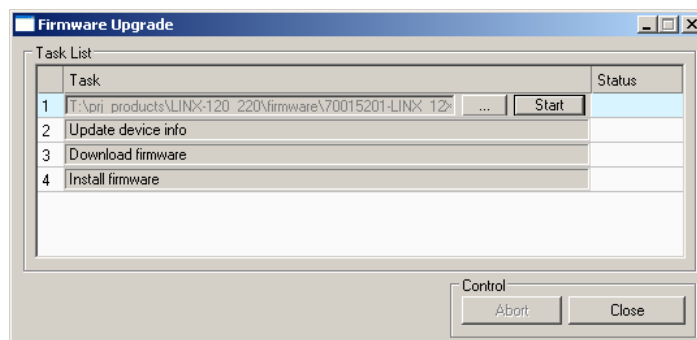

Figure 52: Firmware Update dialog of the Configurator.
8. This opens the **Firmware Update** dialog as shown in Figure 52. Click on the button  and select the firmware image.